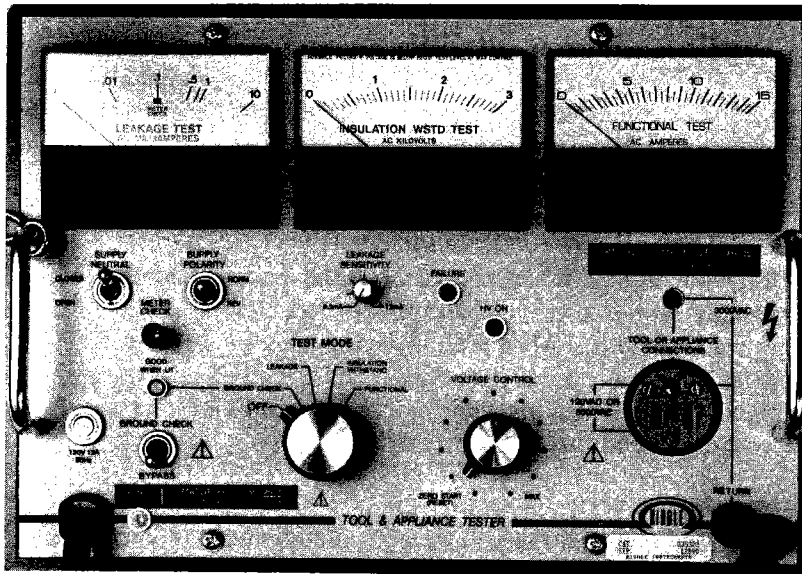

Figure 2: Tester Control Panel
The controls, indicators, and connectors for the tester are arranged on a color-coded panel as shown in Figure 2. The following descriptions are in alphabetical order by schematic reference number.
**Contact Plate (not shown in Figure 2)**
**Thumbscrew (not shown in Figure 2)**
**Round Pin (not shown in Figure 2)**